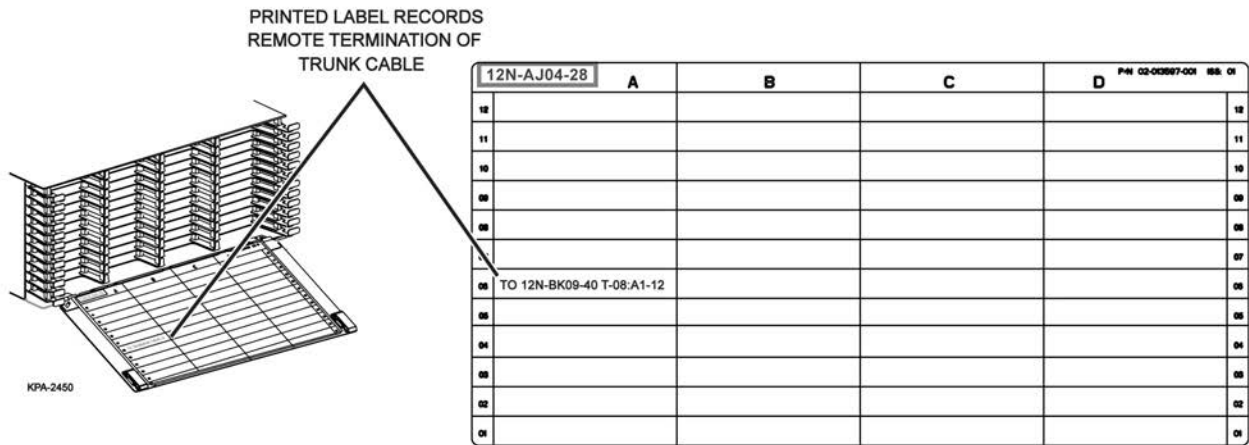

Figure 30 — Print Remote Termination Label
Step 5: Documentation (Figure 30)